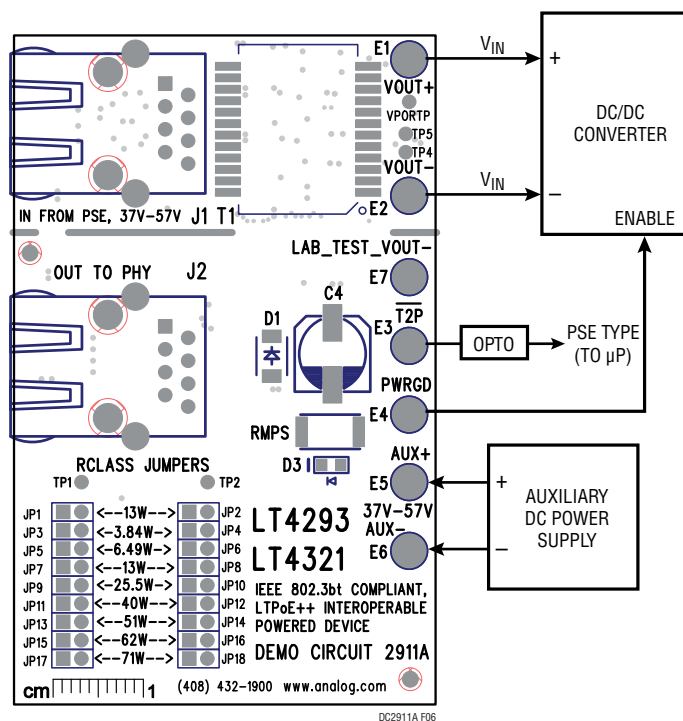

Figure 6. Setup Diagram for Auxiliary Supply Input
1. Place and connect test equipment (voltmeter, ammeter, oscilloscope and electronic load) as shown in Figure 6.
3. Connect the output of the auxiliary supply to the DC2911A as shown in Figure 6. Turn on the auxiliary supply and set its current limit to 2A. Then increase its output voltage to 48V.
5. Verify $\overline{T2P}$ response with an oscilloscope as shown in Figure 6. The $\overline{T2P}$ response during auxiliary power operation is provided in Table 3.